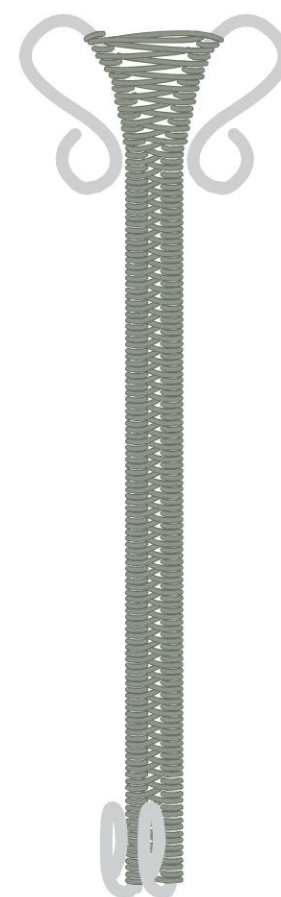

figure 6
- 10 Continue weaving the two frame wires together, up to the curve of the large loops. Trim the weaving wire (Figure 6).